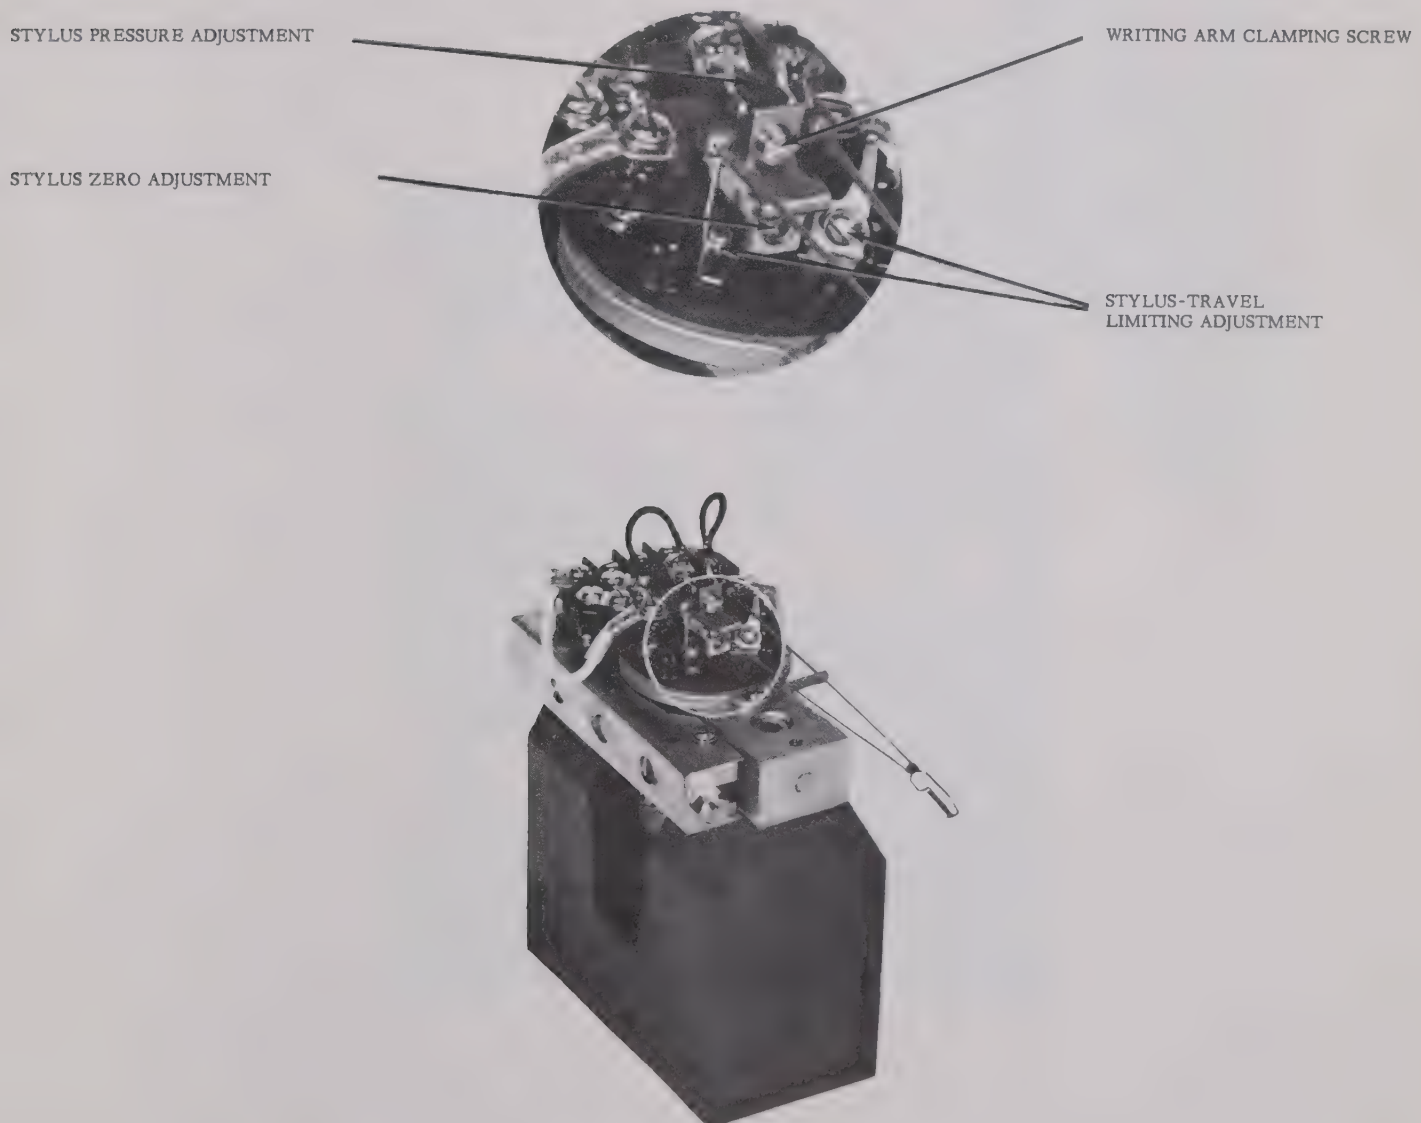

Figure 12
These adjustments can be identified in Figure 12.
- (3) Rotate the stylus HEAT control to its maximum clockwise setting and allow the recorder to run for a few moments. The increased temperature may be sufficient to burn off the coating. If the preceding steps do not provide a better trace remove the writing arm.
- (4) Loosen, but do not remove, the writing arm clamping screw. (See Figure 12). Lift the arm free, taking care that the magnetic pull does not cause the screwdriver to damage the galvanometer.
- (5) Examine the surface of the hot-wire stylus. If the stylus is dirty, clean it by scraping gently with a sharp blade or rub it carefully with fine sandpaper. Do not use steel wool or abrasives containing metal particles. If the ribbon is bent, straighten it with tweezers. Replace the writing arm, tighten the screw, and check the trace. Check the stylus force with the Stylus Pressure Tester.
- (6) If the above adjustments do not provide a more clearly defined trace, remove and replace the writing arm with a new one.
- (7) If the traces of both channels are blurred, check the Permapaper as it passes over the top of the writing edge. There should be no sign of looseness; the paper should be taut as it passes over the edge so that the stylus has as sharp and small a surface as possible on which to write. If necessary, adjust the paper brake for optimum paper tension. (See Paragraph 6).
When the instrument is turned off, the stylus at the end of each writing arm should be centered in the middle of its ruled chart area, within ± 1 millimeter. If adjustment is required, loosen the stylus zero adjustment screw (See Figure 12) using the spline wrench included as an accessory. Move the writing arm to the correct position and tighten the screw.